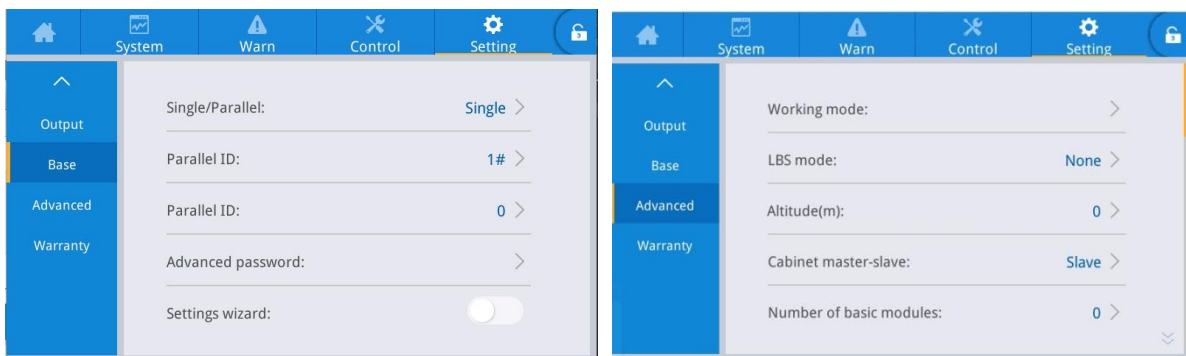

Fig.5-8 Parallel parameter setting interface
- 2.Set 1, 2, 3 and 4 in turn in the [cabinet number] of the setting interface of basic parameters. The parallel operation of at most 4 UPSs is supported, as shown in Figure 5-8.
- 3.Set the number of UPS in the parallel system in [number of system stands] of the advanced parameter setting of the setting interface, as shown in Fig. 5-8.
4. Set one UPS of the parallel system as mast and other UPS as the slave in the [rack master-slave setup] of the advanced parameter settings in the settings interface. The master-slave refers to the communication master-slave of the rack, that is to say, one UPS is the host for monitoring communication, and the other UPS are the slave for monitoring communication. The parameters of other UPS can be set on the communication host, and the slave automatically synchronizes the parameters of the master (for the independent battery pack, the battery parameters will not be synchronized), as shown in Fig. 5-8.